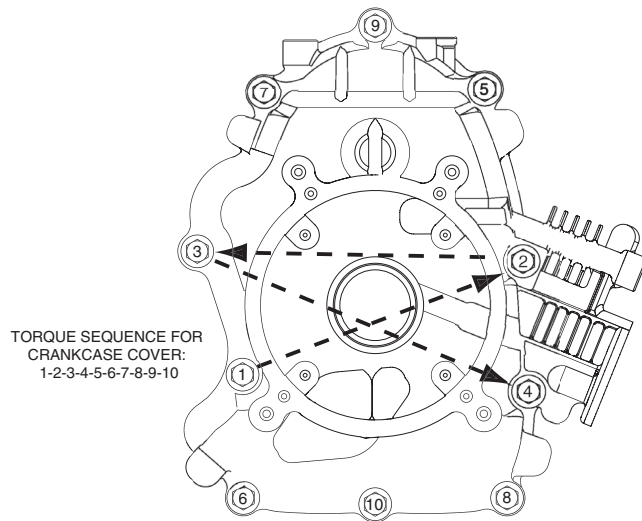

Figure 13-8
4. Torque screws in sequence shown to 47.5 Nm (35 ft. lbs.), Figure 13-8.